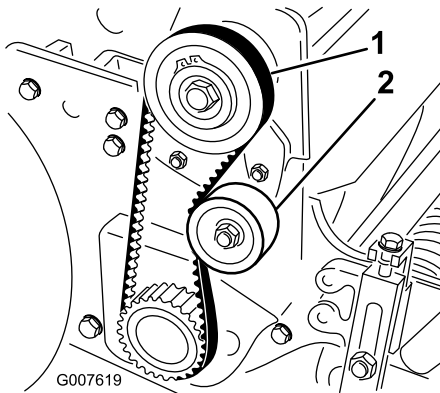

Figure 36
2. Check the tension by pressing the belt at mid span of the pulleys (Figure 36) with 18–22 N (4 to 5 lbs) of force. The belt should deflect 6 mm (1/4 inch).
- A. Loosen the idler pulley mounting nut and pivot the idler pulley clockwise against the backside of the belt until you attain the desired belt tension (Figure 36).